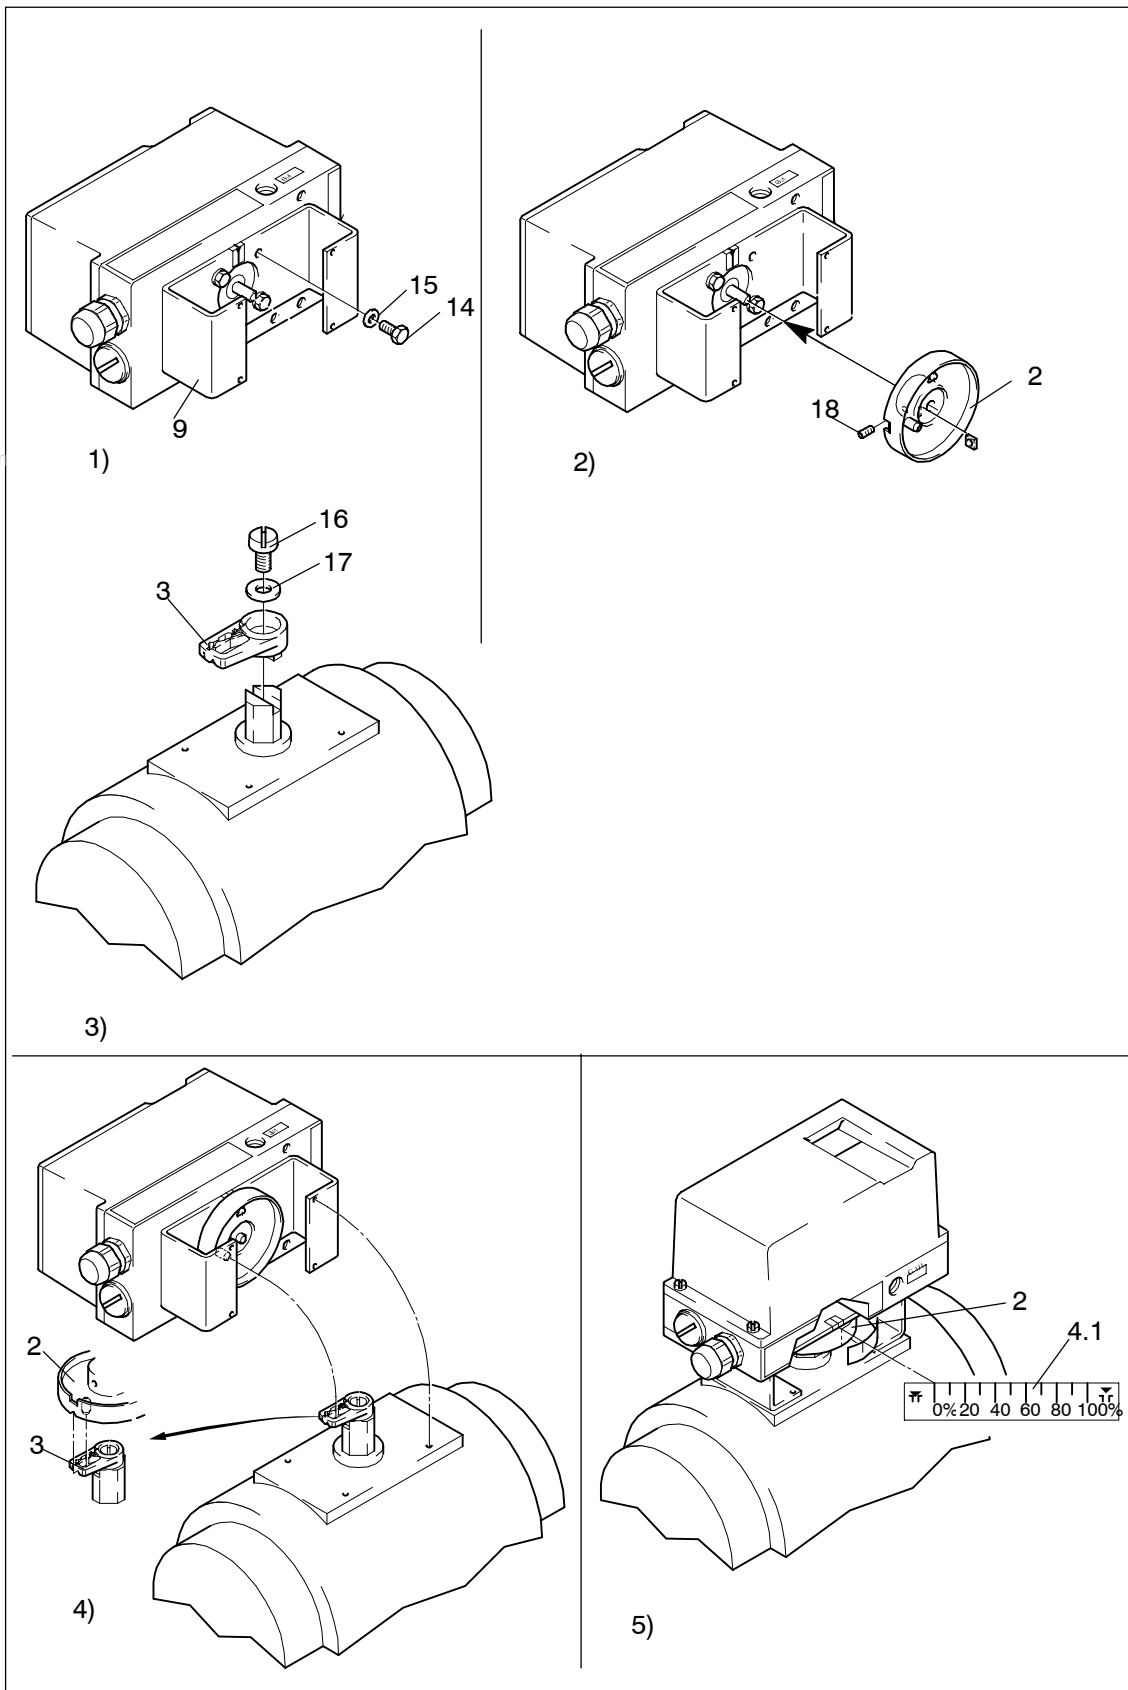

Figure 3-8 Assembly procedure (part-turn actuator)
The *scope of delivery of the mounting kit “part-turn actuator”* contains (ser. no. see figures 3-8 and 3-9):
3.3.6 Assembly procedure (see figure 3-8 and figure 3-9)